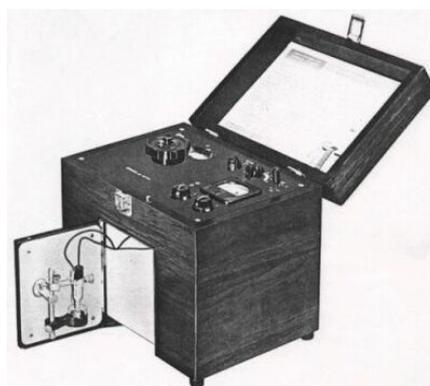

Figure 9. Beckman Model G pH meter, introduced in 1936 (http://chem.ch.buji.ac.il/~eugenik.instruments/electrochemical/hp_meter_beckman_g.html).
- *pH meter.* pH is a measure of acidity or basicity of a solution (a neutral solution has pH 7, an acidic one less than 7, and an alkaline (basic) one more than 7). pH measurements are important in many aspects of chemistry, and in determining properties of samples. There are various means of measuring pH, but the most widely used is the pH meter, using an electrode whose electrical potential is responsive to the hydrogen ion. Arnold Beckman introduced the first pH meter in 1936 (Figure 9), and formed the Beckman Instruments Company, which became a very successful manufacturer of analytical chemistry